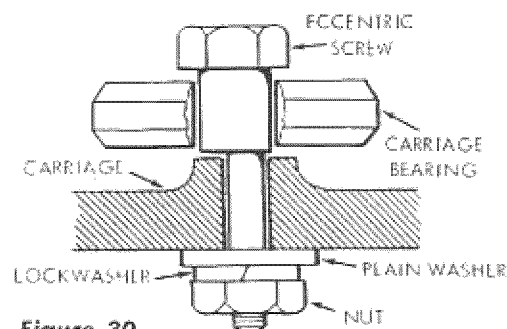
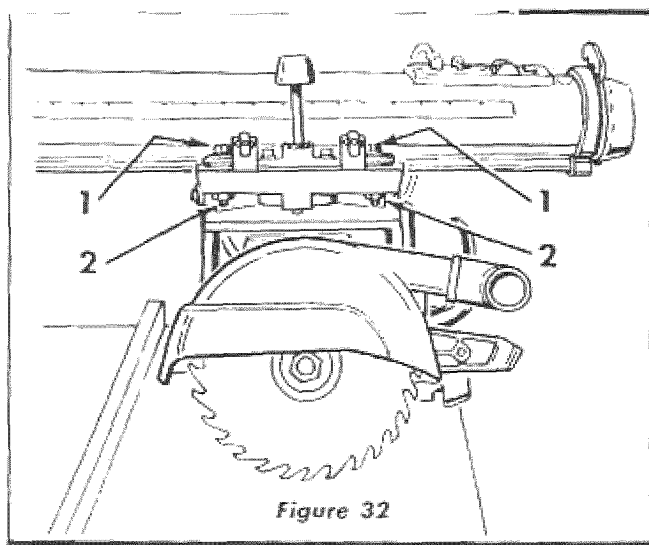

Figure 30
Figure 32
To test for looseness in carriage ball bearings (between bearings and tracks in radial arm), lock yoke clamp handle, grasp the motor and carriage assembly firmly and apply a firm racking motion. If looseness exists, the two bearings on left-hand side of radial arm must be adjusted. The two bearings on right-hand side of arm are attached to the carriage with regular hex-head screws and are not adjustable. The two bearings on left-hand side of arm are attached to carriage with eccentric screws. (See figure 30.)
2. Loosen nuts (2, figure 32) just enough to permit eccentric to turn. (See figure 30.)
3. Turn adjusting screws (1, figure 32) a partial turn left or right as required to take up looseness.
4. Hold head of screw (1, figure 32) in position established in preceding step and tighten nut (2) on underside of carriage.